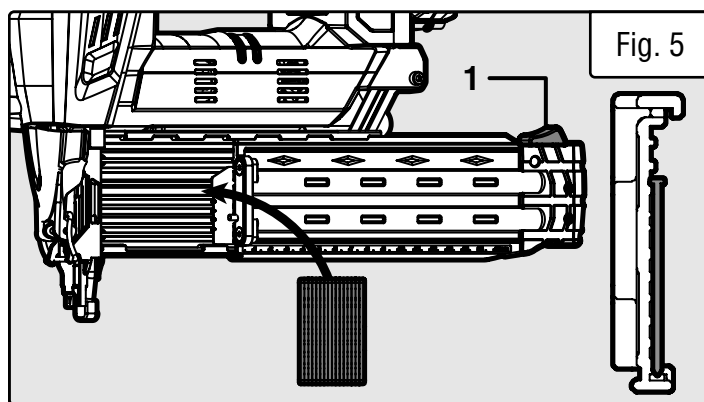

Fig. 5
1. Press the magazine lock (Fig. 5 - 1) to release and open the magazine door.
2. Load the magazine. Make sure that the tip of the nails is pressed up against the magazine rail as shown in Fig. 5. DO NOT use nail strips that have fewer than 10 consecutive nails. DO NOT add multiple nail strips of different lengths.